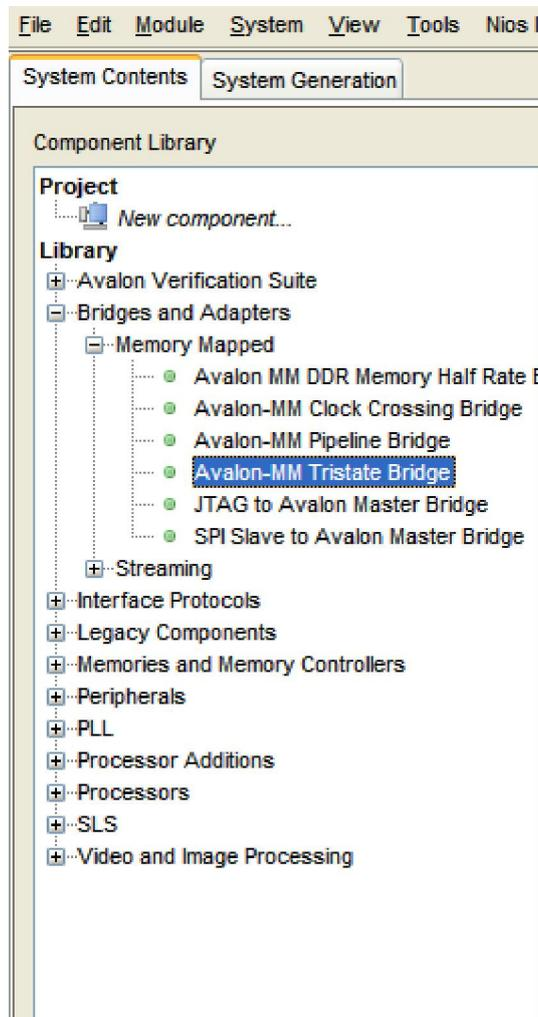
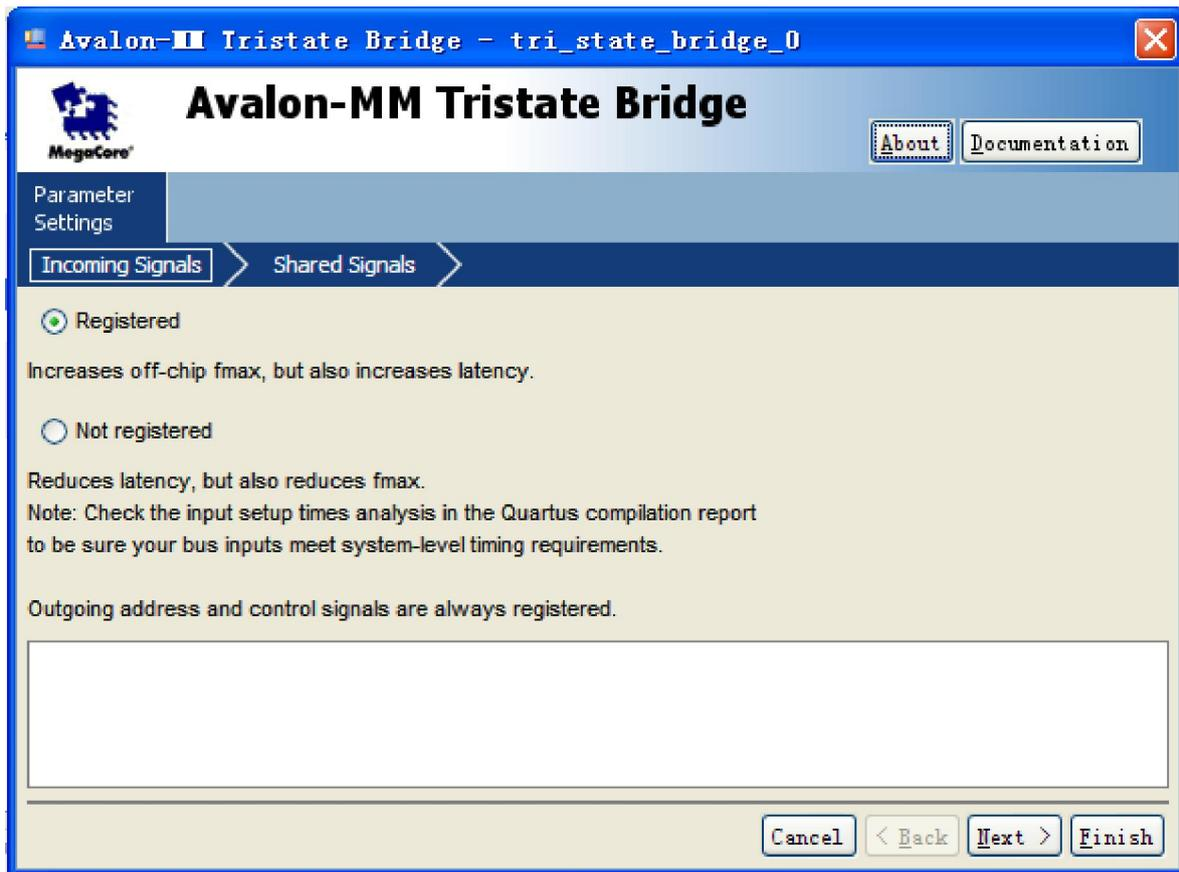

Figure 3-1 Avalon-MM Tristate Bridge
Figure 3-2 Avalon-MM Tristate Bridge Box
1. Choose **Library > Bridges and Adapters > Memory Mapped > Avalon-MM Tristate Bridge** to open the Avalon-MM Tristate Bridge wizard. See Figure 3-1 and Figure 3-2.